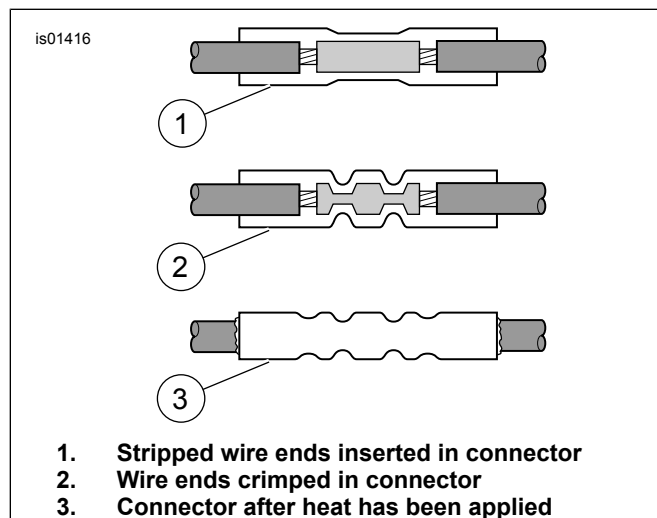

Figure 4. Sealed Butt Connector Installed
- See Figure 4. Insert the two black turn signal wires into opposite ends of a butt splice connector. Insert the two violet wires into opposite ends of a second butt splice connector.